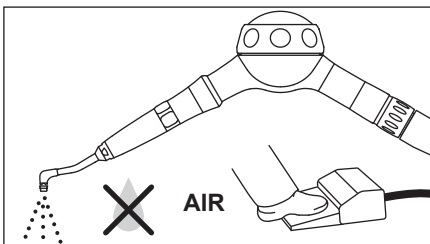

Fig. 12
- 2) Perform idle running with air alone to discharge water and powder in the Nozzle. (Fig. 12)